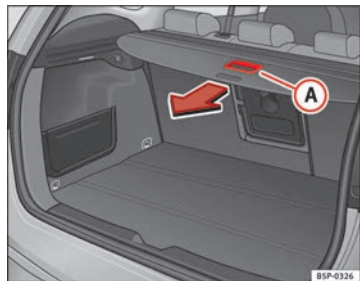

Fig. 124 Using the rear shelf
- Use the handle (A) to pull the shelf back until you hear a “click” ⇒ fig. 124.